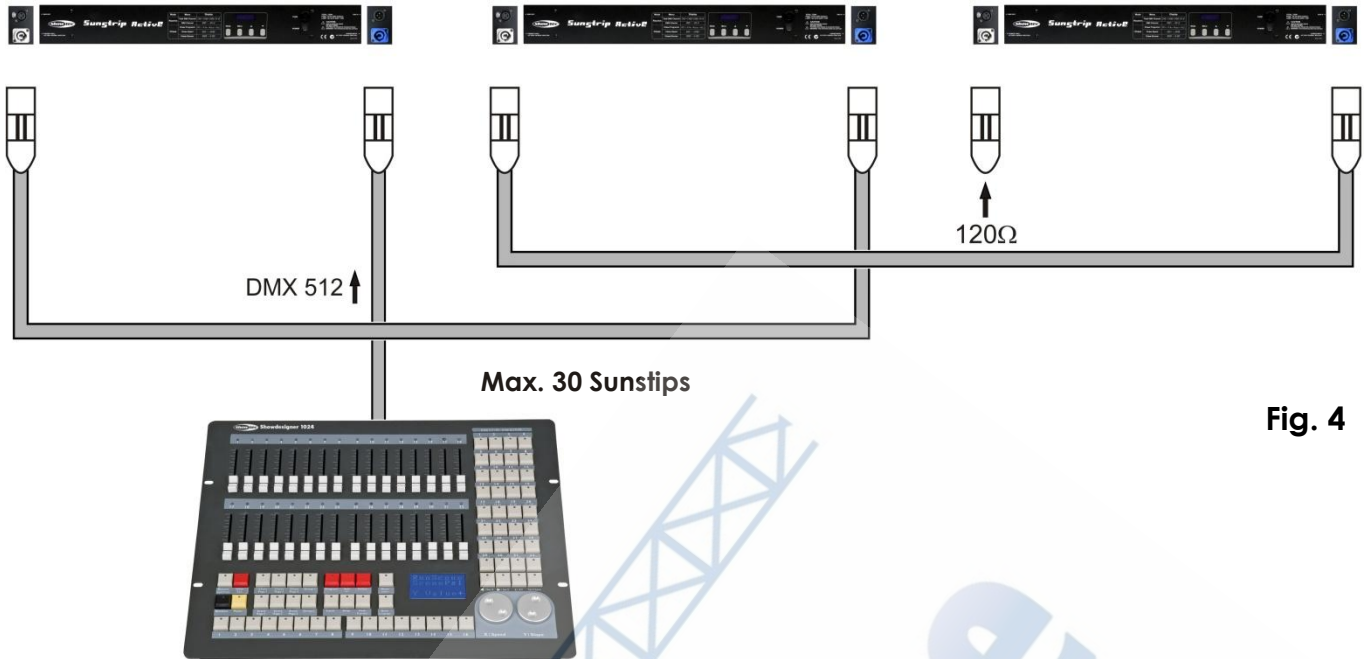

Fig. 4
5. Link the units as shown in (figure 4), Connect a DMX signal cable from the first unit's DMX "out" socket to the second unit's "in" socket. Repeat this process to link the second, third, and fourth units.